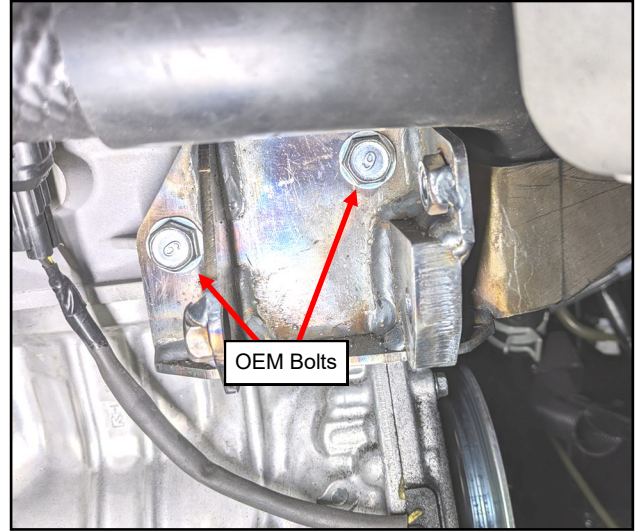

Fig. 3.1a (Install Upper Alternator Mount)
- 3.1 Reusing OEM bolts, nut, and washer, install Upper Alternator Mounting Weldment onto engine block and stabilizer rod per figures 3.1a and 3.1b. Torque factory M8 bolts and nut to 22-31 ft-lb (30-42 Nm).